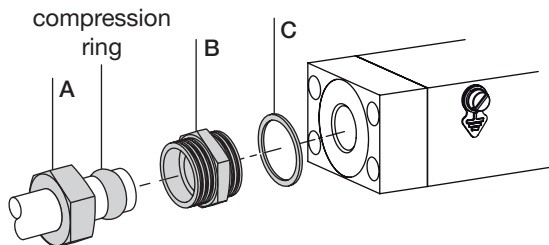

Fig. 13: Components of a compression fitting
- Slide the nut [A] and then the compression ring onto the pipe. Refer to Fig. 13.